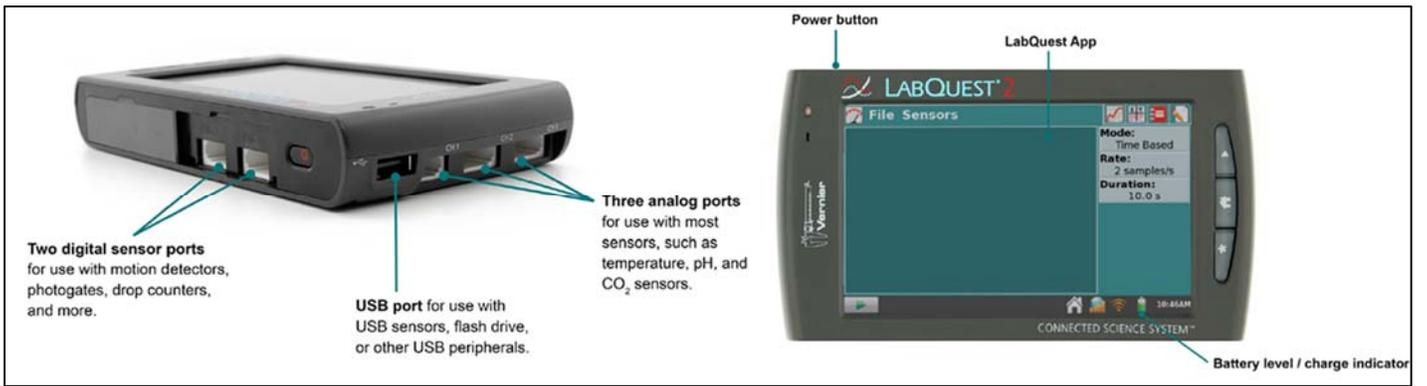

Figure 2 – Side and front views of LabQuest
3. Plug the Differential Voltage Probe into the Channel 1 jack on the side of the LabQuest (see Fig. 2).
- Upon completion of the data acquisition insert the USB drive into the USB port on the LabQuest unit adjacent to the Channel 1 sensor input (see Fig. 2).